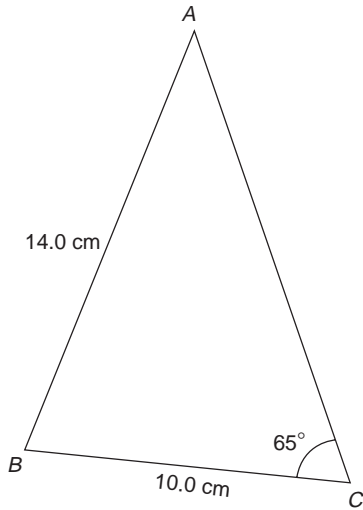

Figure M4
47. In triangle ABC in Fig. M4, length AC is: